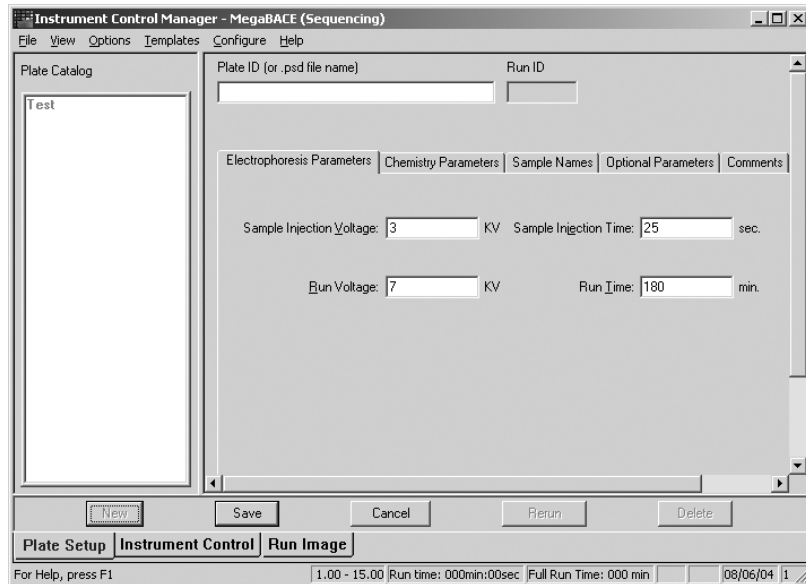

Figure 3-6. The Plate Setup window displaying the electrophoresis parameters.
Table 3-4 lists the recommended plate setup values for runs of the MegaBACE 4500 dye terminator standard. The Plate Setup window (figure 3-6) displays the plate setup parameters. Depending on the laboratory workflow, you might import the plate setup parameters from a plate setup data file (.psd) when you start a run instead of using the Plate Setup window. Alternatively, you might use a .psd file or a plate setup template (.tpl file) to import the plate setup values into the Plate Setup window.
3. In the Select Templates window, select **StdDyeTerminator.tpl**, and then click **Open**. The Plate Setup window displays the parameters for the selected template (figure 3-6).